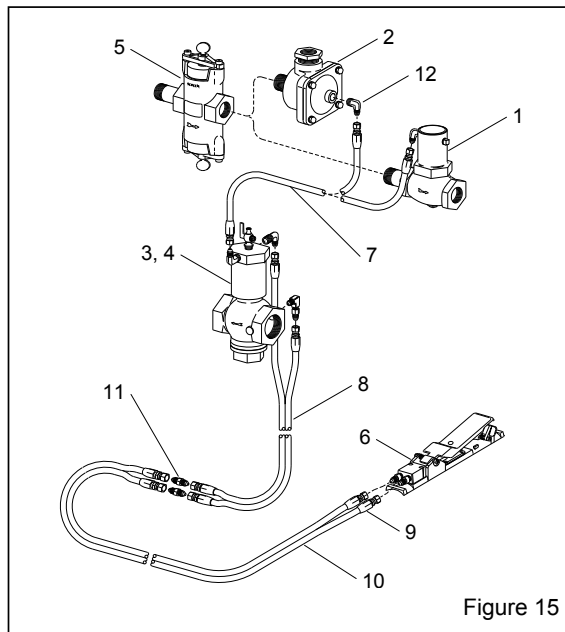

Figure 15
7.3 System Replacement Parts, Figure 15
All other parts are the same as shown in Section 7.3 and Figure 15. Refer to the RLX manual for replacement parts for the ACS Control. Refer to the metering valve manual for metering valve replacement parts.